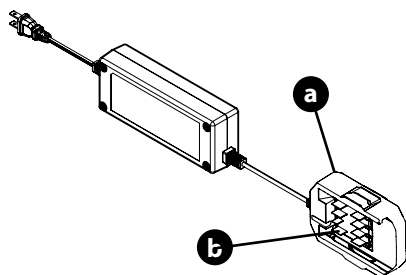

Figure 2
1. Keep the battery charger clean and clear of debris. Do not allow foreign material into the charger connector (a) or onto the terminals (b) (Figure 2). Inspect the battery charger for foreign material before each use.